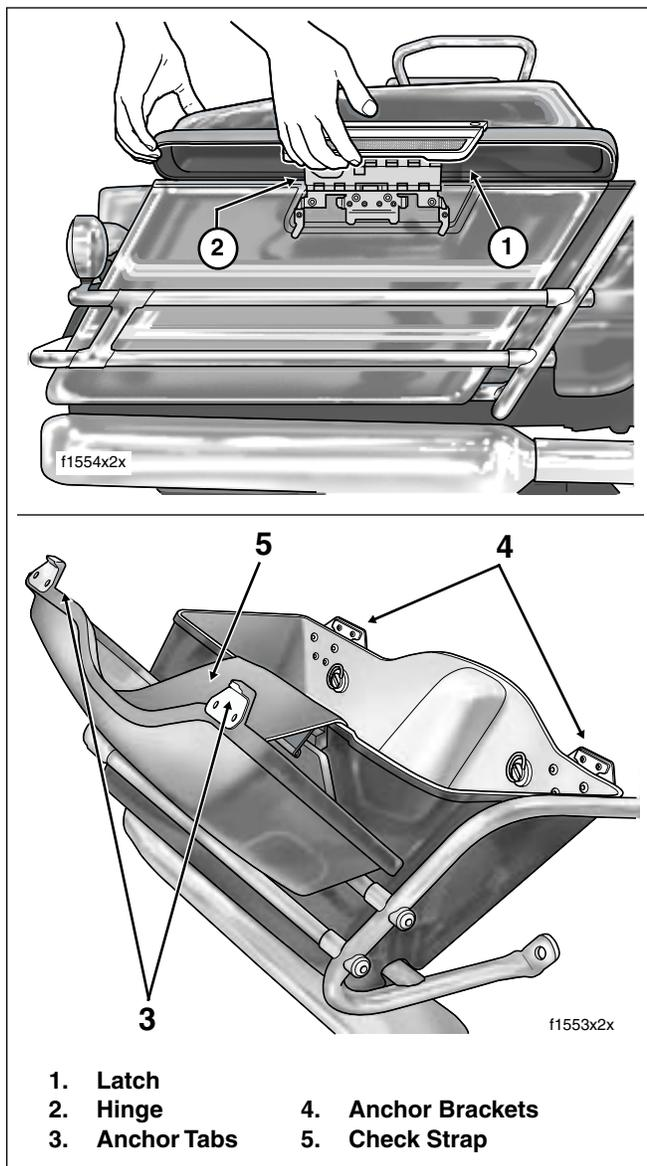

Figure 2-135. Open Saddlebag
2. Pull bottom of latch outward and then lift upward raising outboard corners of saddlebag lid. See upper frame of Figure 2-135.
- Pivot lid on latch hinge to open. A nylon check strap suspends the lid in the open position. See lower frame of Figure 2-135.
- Rotate lid to closed position engaging both anchor tabs with bottom of anchor brackets. Press bottom of latch inward until it snaps closed. See lower frame of Figure 2-135.